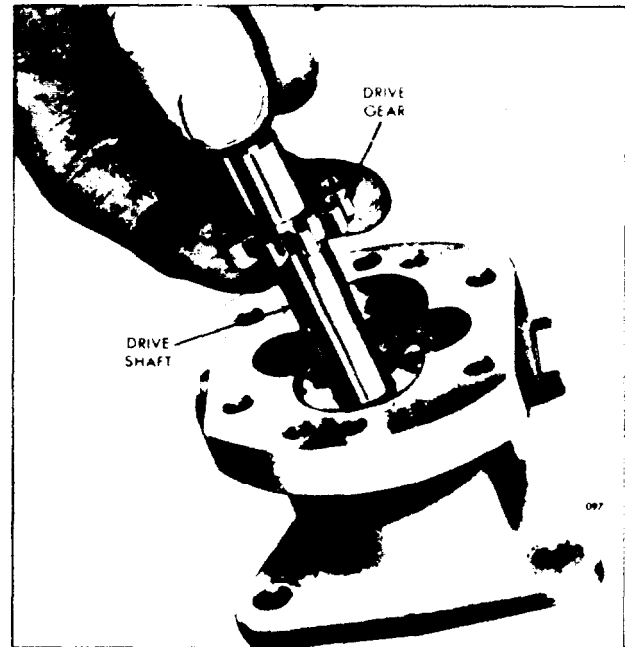

Fig. 8 - Inserting Fuel Pump Drive Shaft and Gear Assembly through Oil Seals
4. Lubricate the pump shaft and insert the square end of the shaft into the opening at the gear side of the pump body and through the oil seals as shown in Fig. 8.